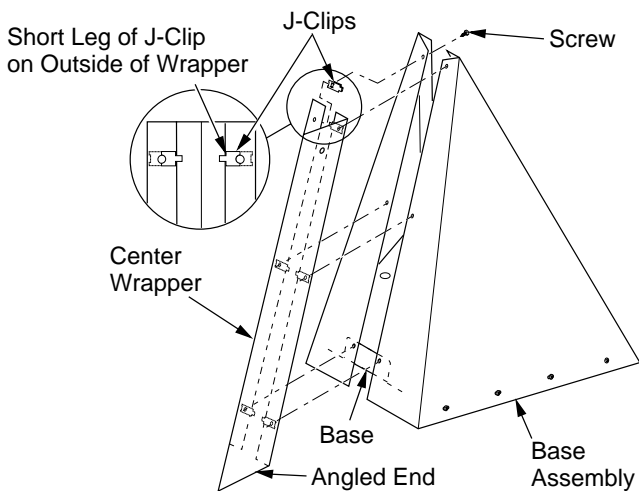

Figure 3 - Attaching Center Wrapper to Base Assembly
3. Locate center wrapper. The center wrapper is angled at the bottom and has a hole on either side of the front at the top. Slide J-clips over holes on open side of center wrapper with short side to the outside of center wrapper (see Figure 3).